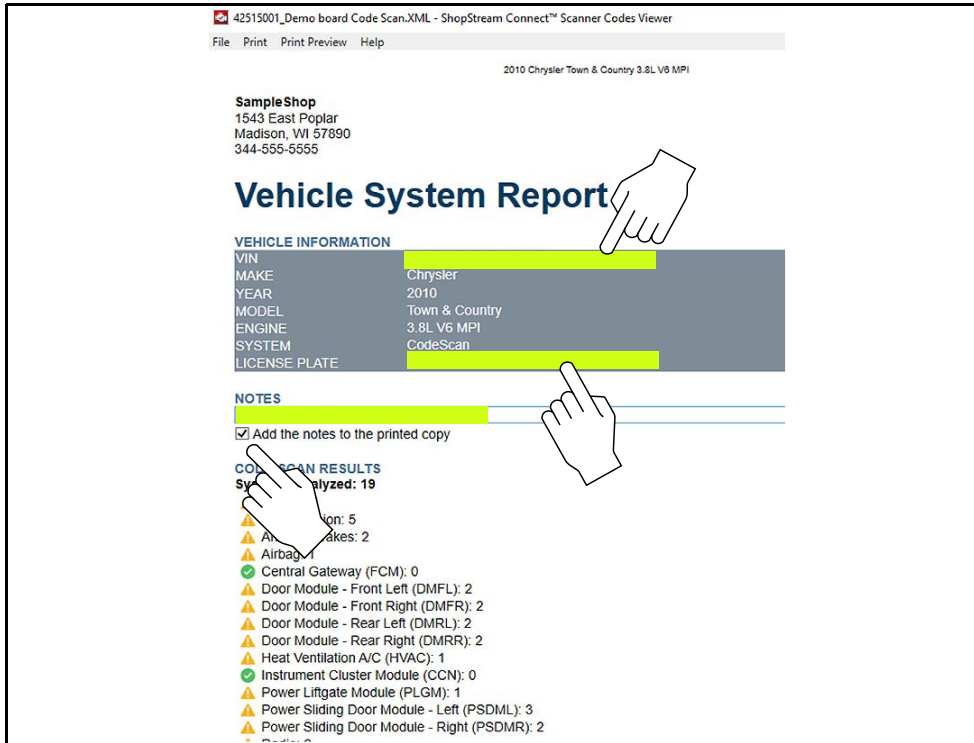

Figure 16-10
1. From ShopStream Connect, open the code scan .XML file to be edited (Figure 16-10).
2. Click in the editable fields as shown in (Figure 16-10) to change the values or add notes.
3. Check the “**Add the notes to the printed copy**” box to show the notes in the printout (Figure 16-10).